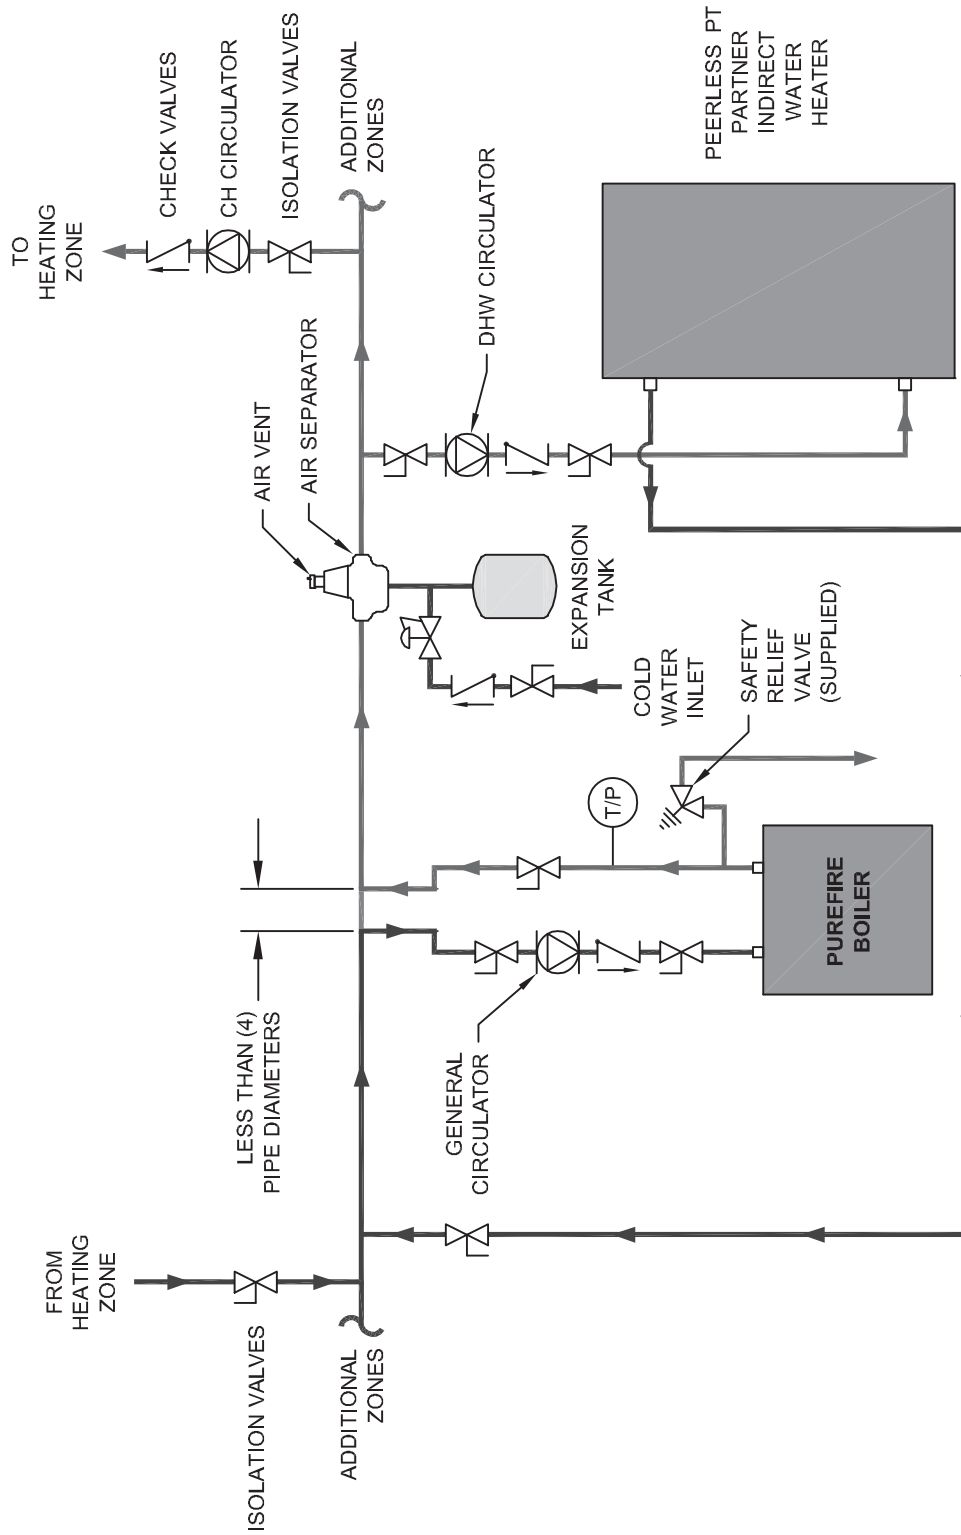

Figure 4.5: Recommended Piping – One Boiler, Primary/Secondary with Two Zones (Zone Circulator)
- 1. Figure 4.5 shows a single boiler with multiple heating zones. In this case, the DHW zone is piped in parallel to the heating zones on the primary loop.